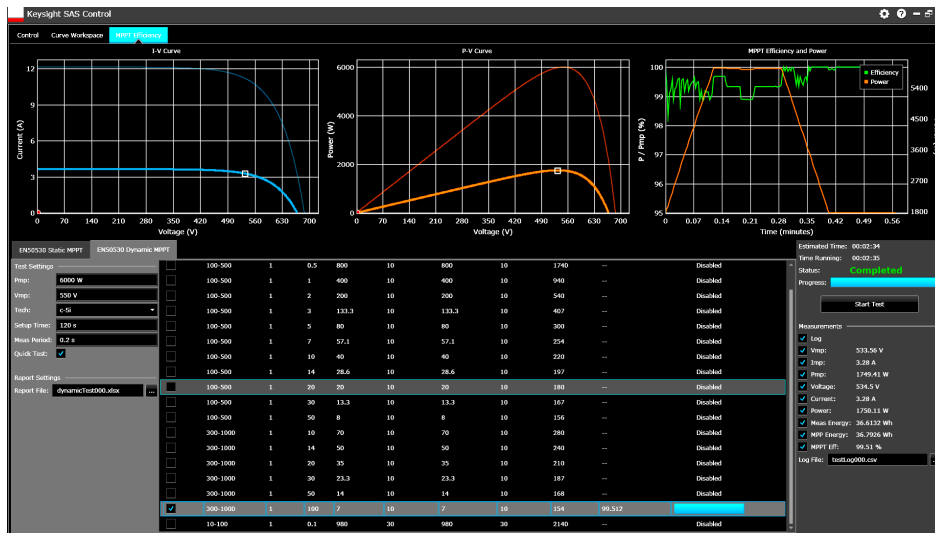

Figure 6. SAS Control Software performing dynamic EN50530 MPPT test.
- Create static and dynamic EN50530 test reports using DG8901A software with one click from the MPPT Efficiency tab (Figure 6)